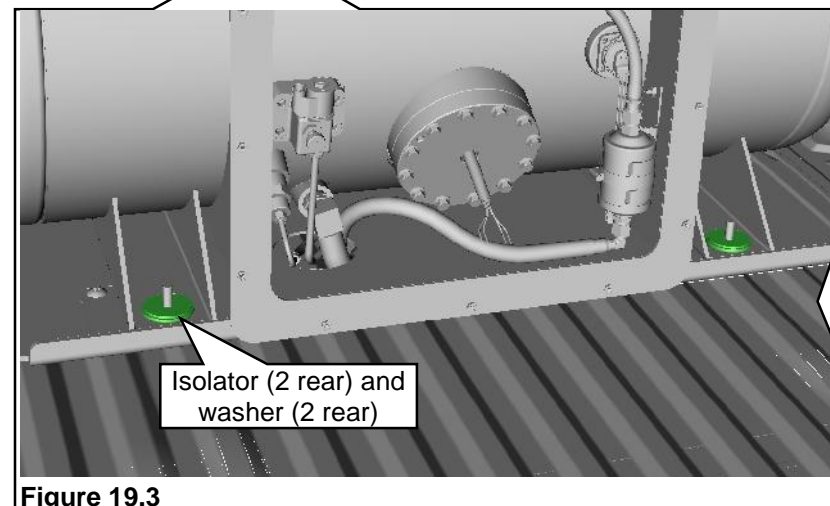

Figure 19.3
4. Install four upper rubber isolators into the tank brackets. Install one washer onto each of the four tank isolators. **Figures 19.3 and 19.4.**